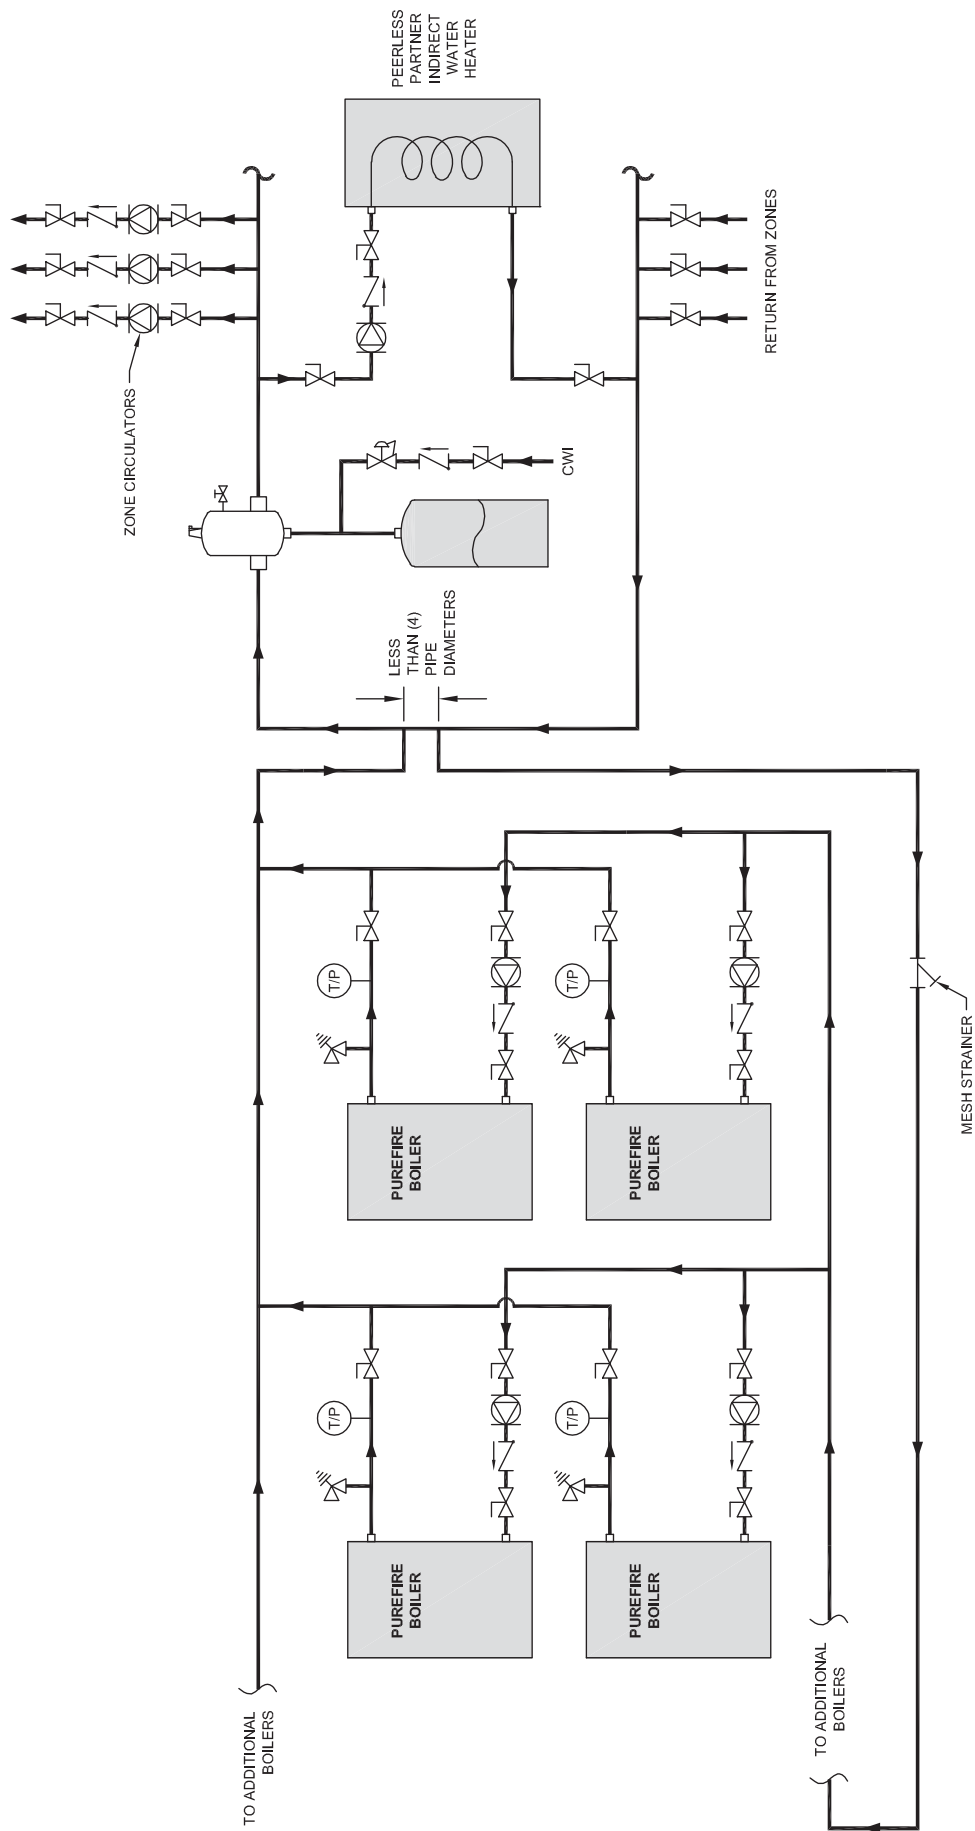

Figure 4.6: Recommended Piping – Multiple Boilers with Multiple CH Zones & One DHW Tank
3. The configuration illustrated in Figure 4.6 is for multiple boilers. This figure shows an indirect DHW tank in parallel with the heating zones. Notice that the return to the boilers from the closely spaced tees in the primary secondary arrangement is reverse return to provide similar lengths of piping through each boiler. This configuration shows the boilers in groups of two to take advantage of the PUREFIRE® PF-850 or PF-1000 stacking capability.